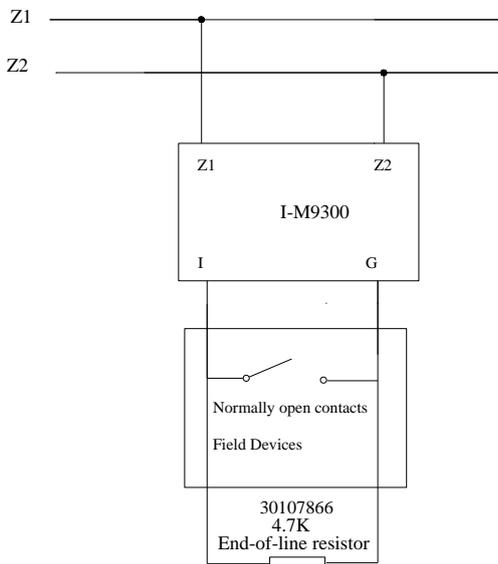

Fig. 4
In two-wire mode (2), the module connects to devices with normally-open contact. Wiring diagram is shown in Fig. 4.